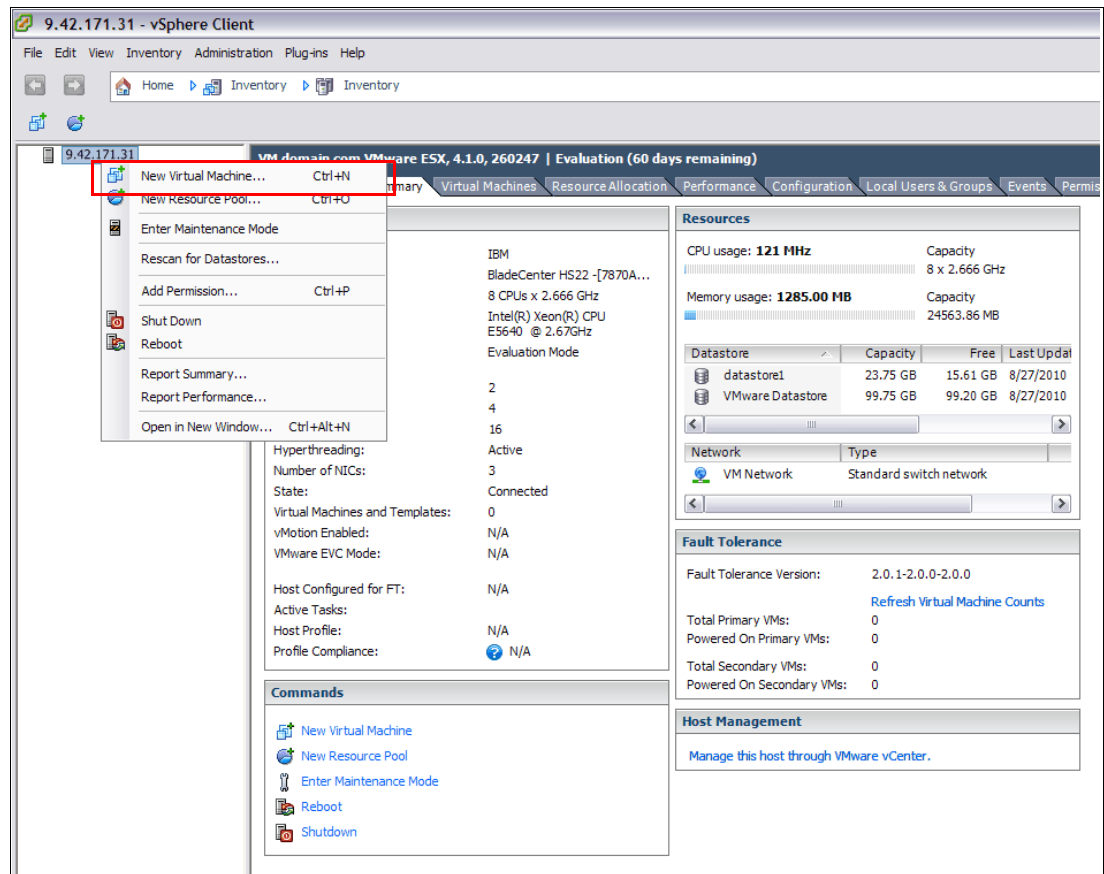

Figure 22-72 New Virtual Machine
2. Expand the left pane to locate the VM Host that the Guest will reside on. Right-click the Host, and choose **New Virtual Machine**. A wizard starts. See Figure 22-72 on page 704.